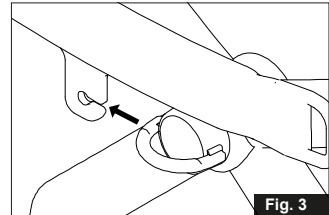

Fig. 3
2. Tilt GH3 Cross hanger to slide the round hoop in to the hook (Fig. 3)